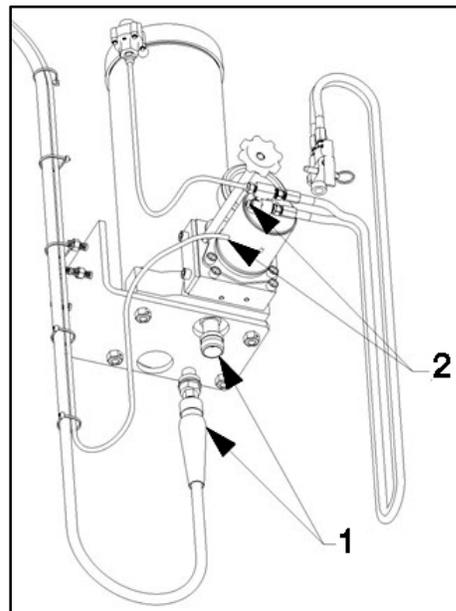

Fig. 4: Connect hoses
3. Attach the hydraulic hose to the power unit (Fig. 4).
4. Attach the $\frac{1}{4}$ " air hose to the power unit (Fig. 4).